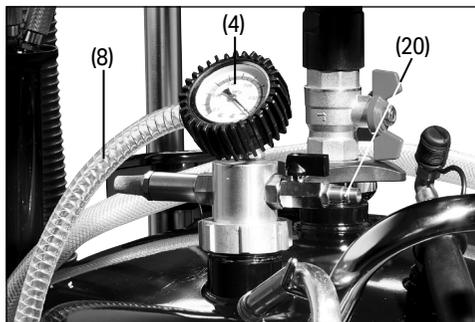

Fig. 2
1. Connect the air supply to the suction air inlet connector (20) and open the air valve (refer to section 7.2 and fig.2).